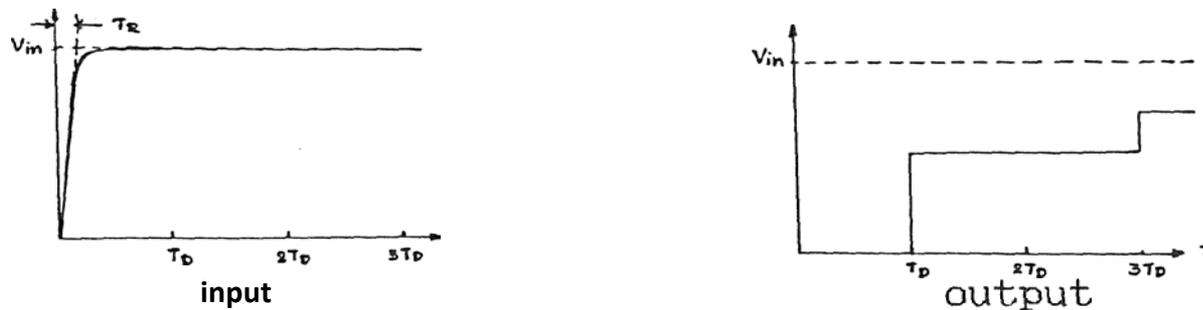

Fig. 6.7a. If $T_r < 10 T_D$ we will have distortion at the output and we need to terminate the cable with a resistance $R = Z_0$ (or $R_s = Z_0$).
- We assumed in the cases above that the rise time, T_r , of the input step was zero (or very small). For signal rise times which are small compared to T_D we will get distortion of the input step like above, and we should prevent it by termination, either by putting $R_s = Z_0$ or $R = Z_0$ or both to eliminate reflections. See Fig. 6.7a below